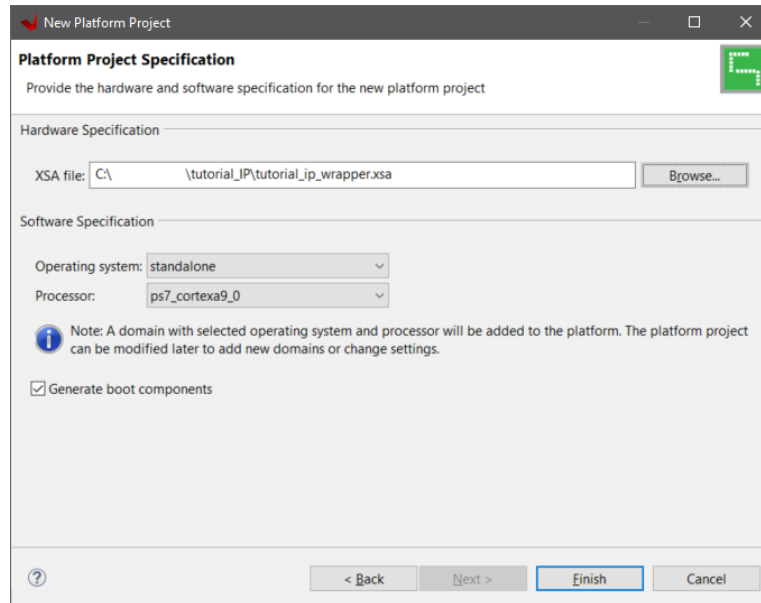

Figure 18
7. In the new **Platform Project Specification** page, navigate to the folder where the XSA file **tutorial_ip_wrapper.xsa** was created in Vivado to add it (Figure 18)